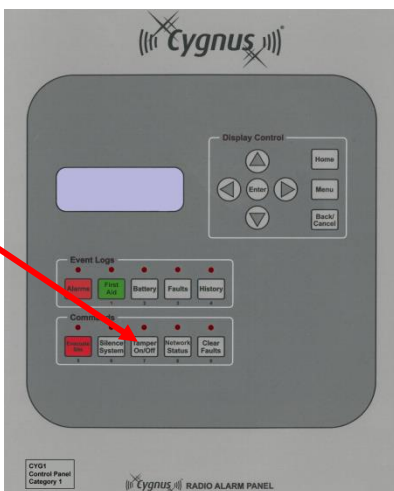

Figure 7-22: Control Panel showing the Tamper Alarm button
1. Press the **Tamper On/Off** button (Figure 7-22).